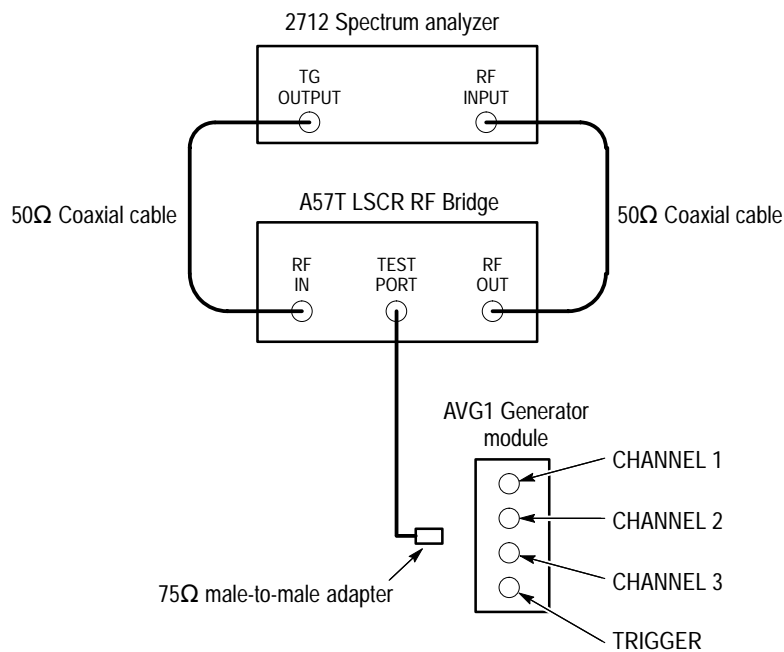

Figure 4–3: Equipment hookup for checking return loss
- Connect a precision 50 $\Omega$  cable from the spectrum analyzer RF Input to the RF Output on the RF Bridge, as shown in Figure 4–3